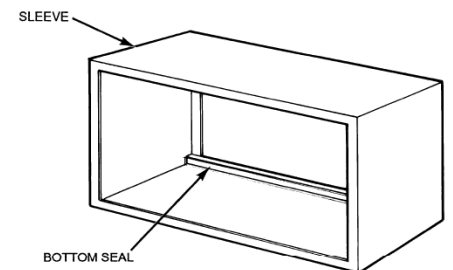

Fig. 7 – Remove Bottom Seal From GE Plastic Sleeve
**GE Plastic Sleeve** -- Remove bottom seal from plastic sleeve. See Fig. 7.